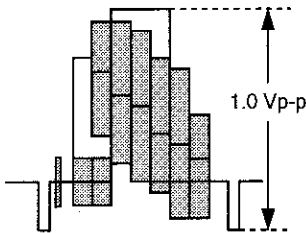

Figure 5-3.
6. Look at the monitor screen and adjust the (+) or (-) TRACKING buttons so that the position of noise come following Figure 5-3(a) and (b).
- 3. Make sure that the E-E signal amplitude is 1.0Vp-p as shown in Figure 5-3.